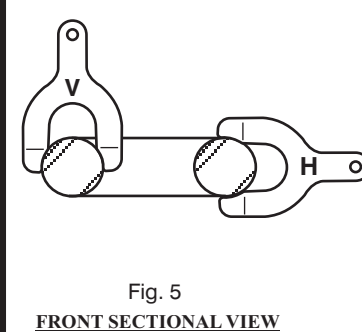

Fig. 5
- 1) Make certain the correct gage is being used (see Figure 5). The eyes have different original top to bottom versus side to side cross-sectional thicknesses.